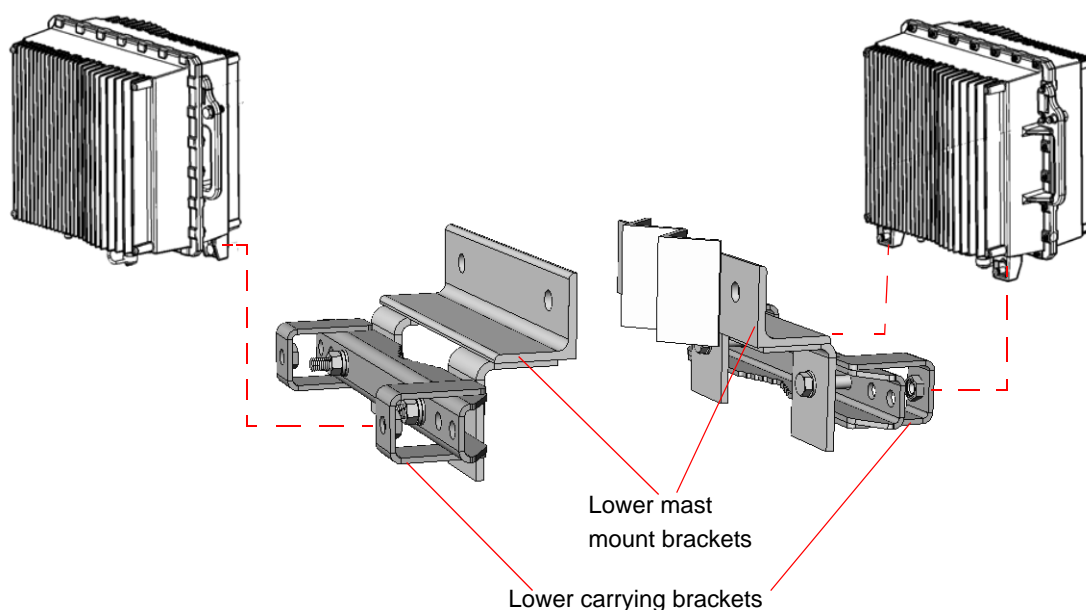

Figure 26: Assembling the Lower Pole Mount Brackets and Lower Carrying Brackets
- 2 Assemble the lower mast mount brackets with the lower carrying brackets on the ODU using the M12 screws, washers, and spring washers (Figure 26).